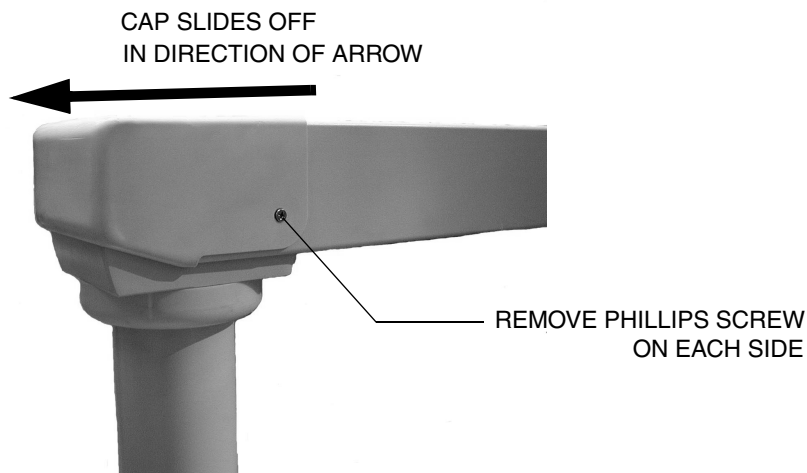

FIGURE 1. End Cap Removal
2. Remove end cap by removing the two Phillips head screws from both sides of unit. See Figure 1.
10. Reinstall the end cap. Refer to Figure 1.